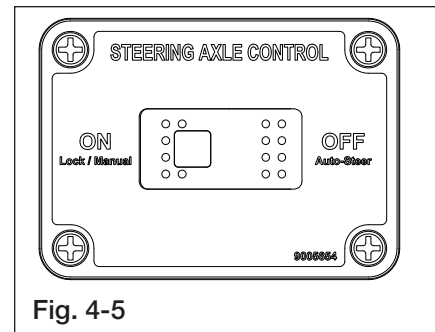

Fig. 4-5
2. Turn the steering axle control switch to the "ON/Manual-Steer" position, and ensure the hydraulic lever is in float. (Fig. 4-5)